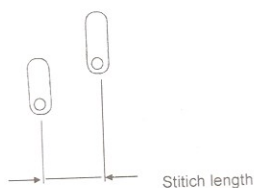

Fig.30
26. Replacement of throat plate: (Fig.30)
The standard size of the throat plate in parts book, which is stipulated by the manufactory, is $1/4$,equivalent to 6.4mm (Fig.30)